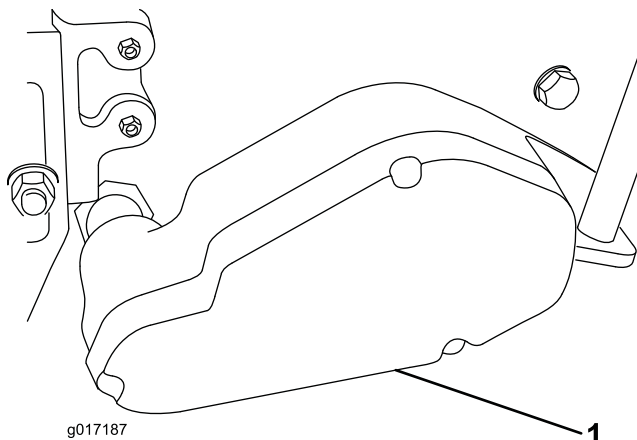

Figure 10
25. Install the cover to the housing, with the 3 new socket head screws and lockwashers provided in the kit (Figure 10).